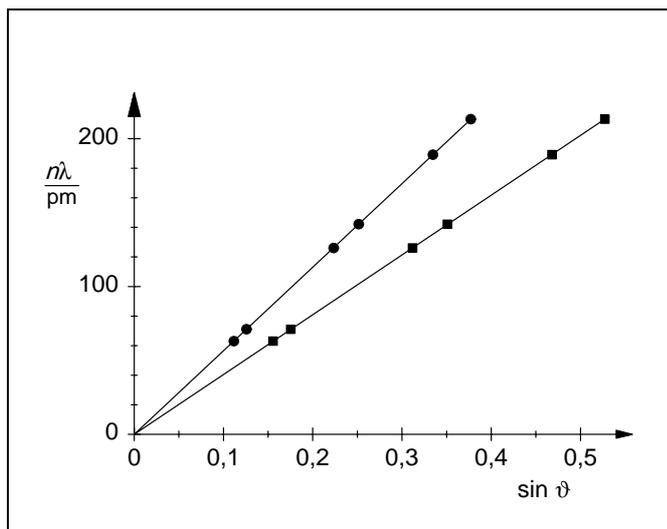

Fig. 6 Value pairs as a function of  $\sin \vartheta$
- For each glancing angle  $\vartheta$ , calculate the values  $\sin \vartheta$  and and plot these value pairs in a diagram (see Fig. 6).